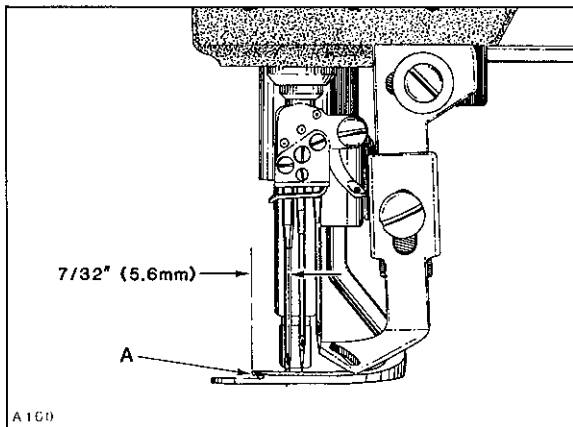
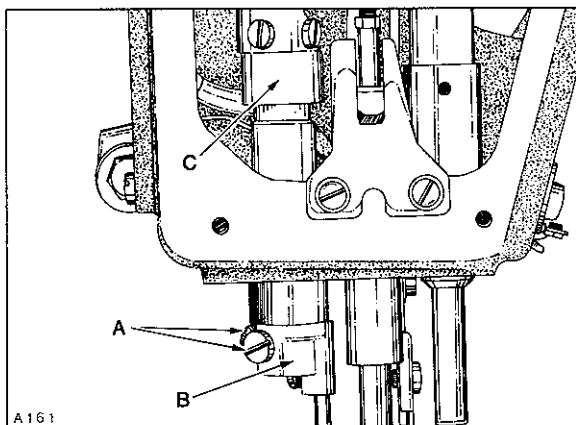

Fig. 30
Fig. 31
With spreader at extreme LEFT end of travel the TIP of thread carrying notch (A, Fig. 30) should be 7/32 inch (5.6mm) to the left of the centerline of LEFT needle. Adjustment can be made by loosening two screws (A, Fig. 31) allowing spreader holder (B) to be rotated on its shaft to attain dimension shown in Figure 30.
**IMPORTANT:** Take up thrust between spreader holder shaft lever (C, Fig. 31) and spreader holder (B) while tightening screws (A) securely. Recheck spreader height.